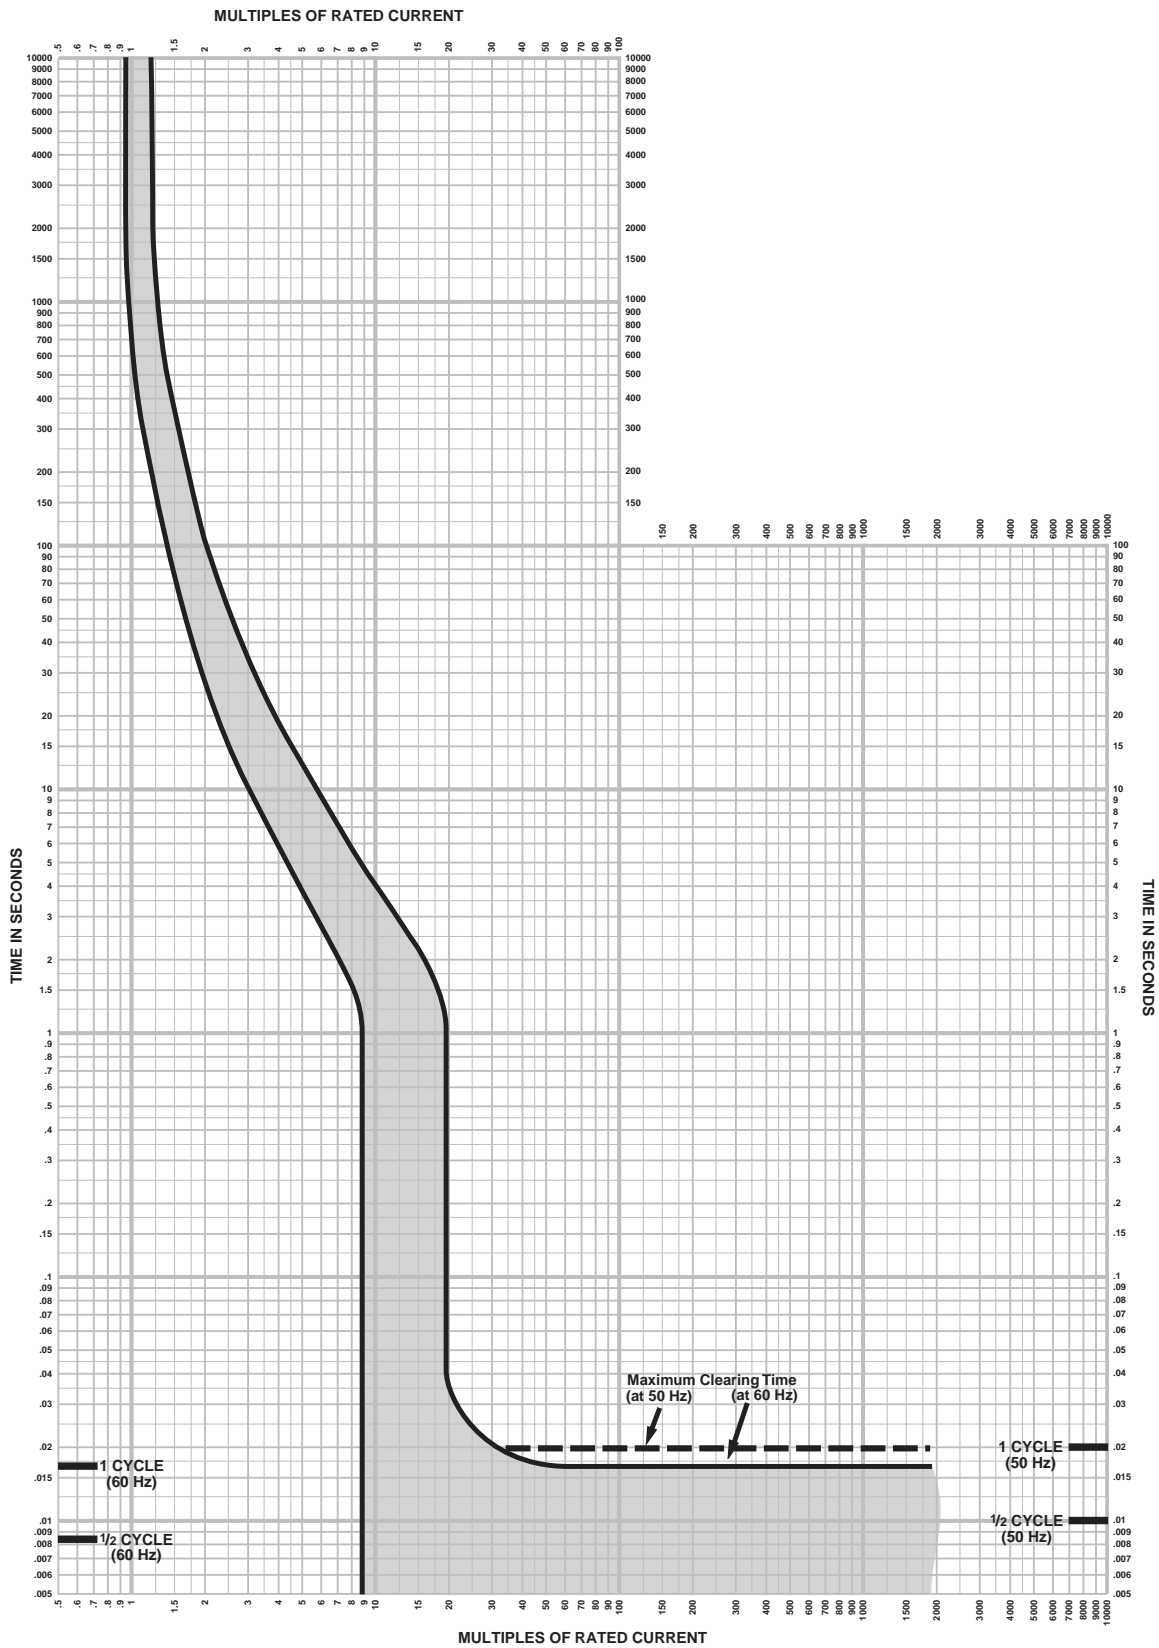

Figure 1: Thermal-magnetic Time/Current Characteristic Curve
*See Figure 1 for an example of a thermal-magnetic circuit breaker trip curve.*